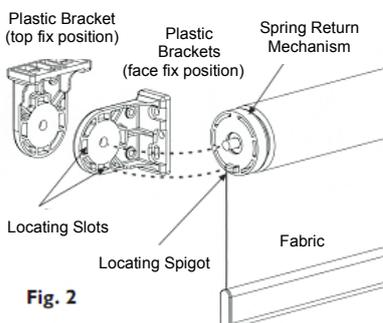

Fig. 2
- Take the spring return mechanism (see fig.2) and gently pull it 25mm (1") out of the tube, ensuring that the spring does not uncoil.